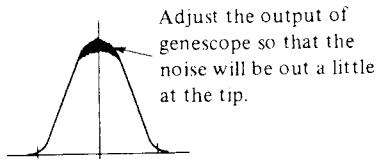
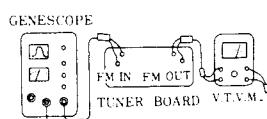
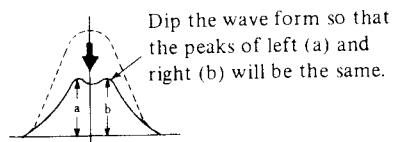

Fig. 5
Fig. 6
Fig. 7
- (1) At the article 1 - (2). By the core of T101, T102, T103 and T105 let it be adjusted so that the gain will be max. And the wave form should be adjusted so that it will be the one of the Fig.5. In this case, the output voltage at the surveying point of TP.2 is weak, so let it be adjusted by connecting shown at Fig. 6, using V.T.V.M.
- Next, adjust it by T109 core, so that the wave form of Fig.5 will dip just as Fig.7 and at this time of adjustment stop the oscillation. (Oscillation variable capacitor is shorted.)